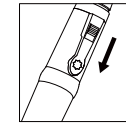

fig.1
- Turn on (or off) the device by pushing downwards (or upwards) as fig.1;